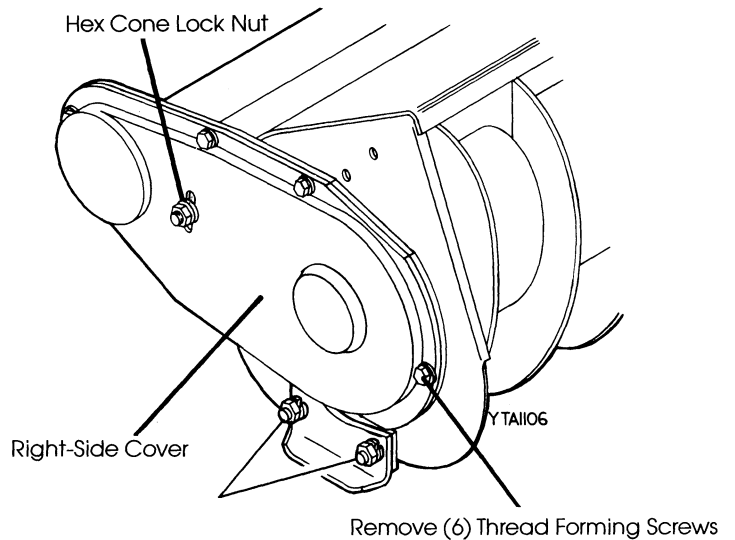

FIG. 3.1A
After each 40 hour period of operation or more often under heavy use: lubricate with oil. Access to the chain is made by removing the (6) thread forming screws and the hex cone lock nut from the right side cover on the collector housing (Fig. 3.1A).